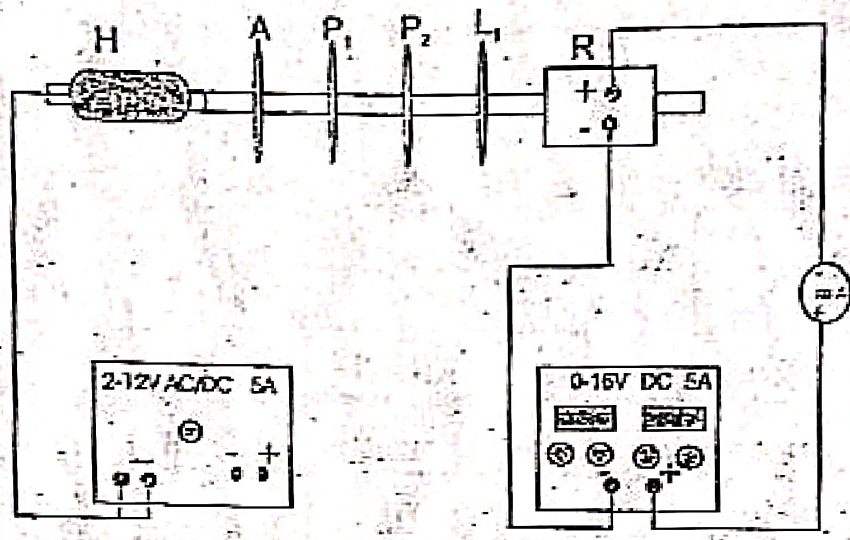

Fig. 2
- (2) Connect the leads of the lamp housing to the power supply (0-12 V AC/DC, 5 Amp.) and apply 10 V AC to the lamp.
- (3) Adjust the heights of the lamp housing, adjustable slit self-centering, polarizer, analyzer, lens and photo-resistor such that all of them lie on same optical axis.
- (4) Make the connections to the photo-resistor and multimeter as shown in fig.2